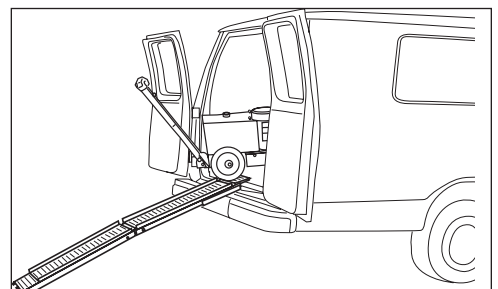

FIG. 3.1
4. Position machine at bottom of ramp (Figure 3.1).
3. Position machine in line with the ramp at the back of the truck (Figure 3.1).